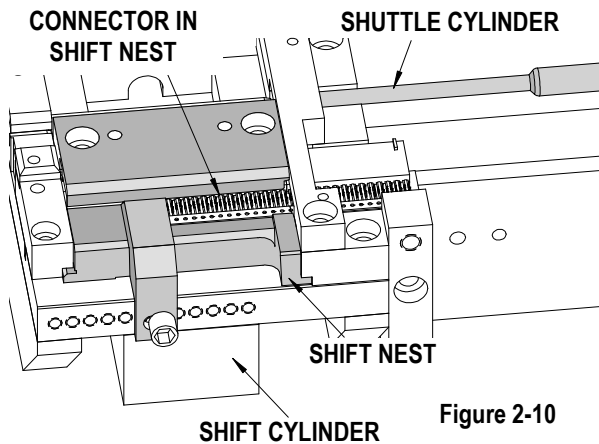

Figure 2-10
6. **"CONN. SHIFT"** (See Figure 2-10) Pressing this button causes the connector in the shift nest to move to the rear position. Pressing it a second time returns the nest to the forward or rest position. (Interlock: Shuttle must be retracted.)